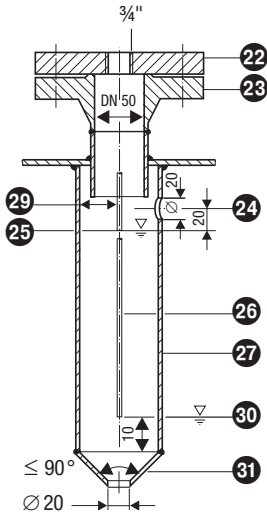

Fig. 14 Protection tube (provided on site) if electrode is used as internal high level alarm.
- Make sure that the air distance between the electrode rod and earth (flange, vessel wall) is not less than 14 mm. **Fig. 14 – 17**